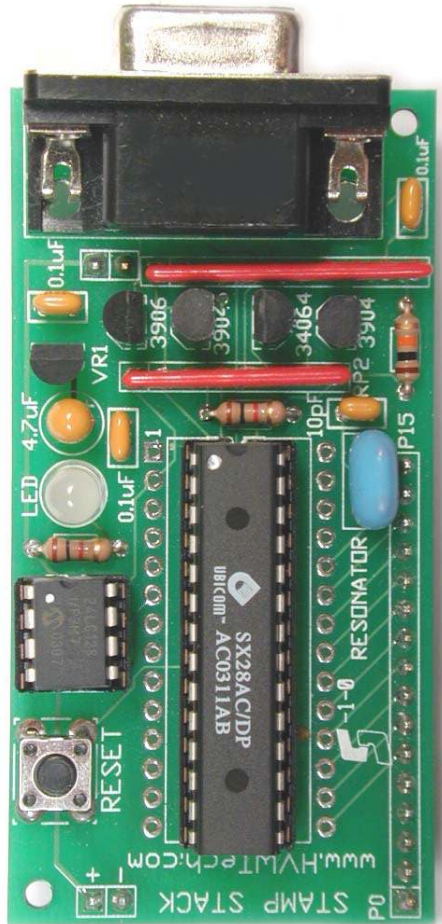

Figure 5: Resistor Packs
Figure 5 shows the 2 SIP resistor packs. On top is the 8-pin 4.7K pack, and on the bottom is the 10-Pin 10K pack. These components are also polarized, and pin (1) is identified with a dot, arrow or a line. In this case, you can see the arrow on the top/black resistor and the line on the bottom/red resistor.